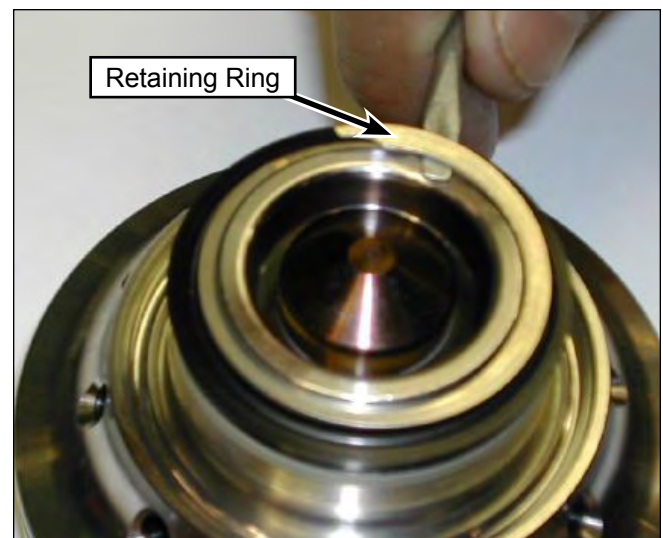

Figure 88: Remove Retaining Ring.
2. Use the screwdriver to remove the seal retaining ring. Insert the blade under the slit and rotate the ring out of the groove (Figure 88). Use caution to prevent bending or distorting the ring.